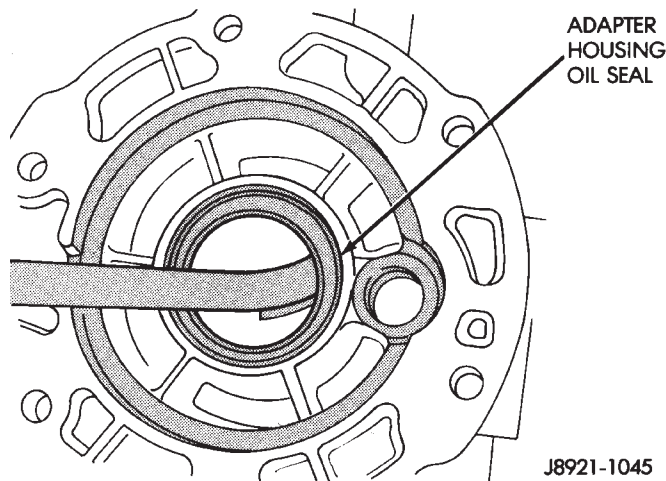

Fig. 15 Remove Adapter Housing Seal
- (1) Hoist and support vehicle.
- (2) Remove transfer case.
- (3) Using a suitable pry tool, or a slide hammer mounted screw, remove the adapter housing seal (Fig. 15).